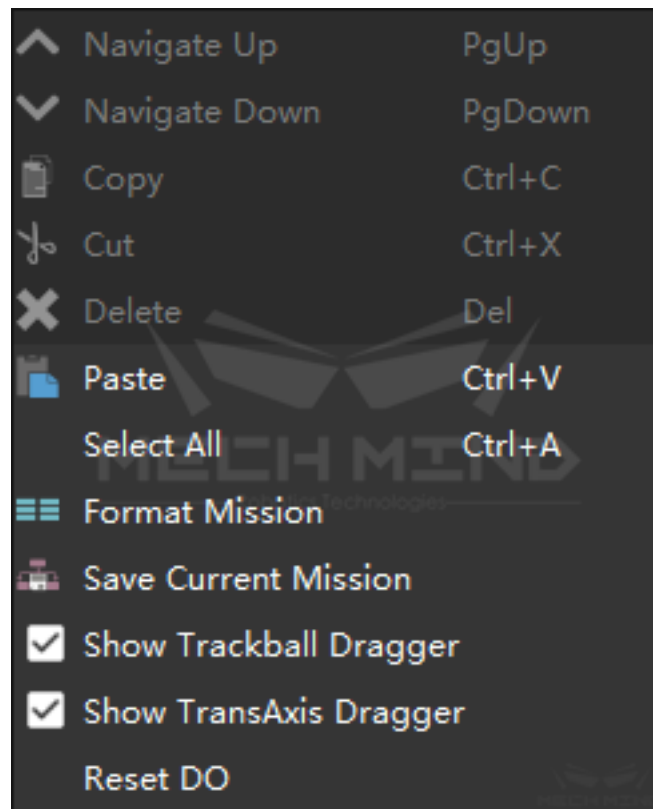

Figure 9 Right-click shortcut menu
- Right-clicking in the programming area of the mission tab can bring up the interface as shown in *Figure 9*. It is mainly used for quick operations such as switching up and down levels in multi-level missions, resetting external signal states, and neatly arranging graphical modules;